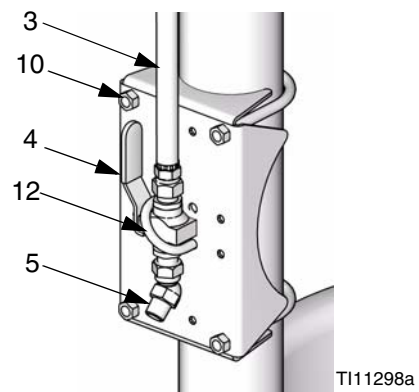

FIG. 3: Bottom Bracket with Ball Valve
7. Assemble ball valve (4) to one of brackets by installing u-bolt (12) over ball valve as shown in FIG. 3. Use hex nuts (13) to secure u-bolt to bracket.
8. Install hose (3) to top of ball valve (4). See FIG. 3.
9. Attach swivel union (5) to bottom of ball valve (4). Orient swivel union to point away from bracket as shown in the following figure.